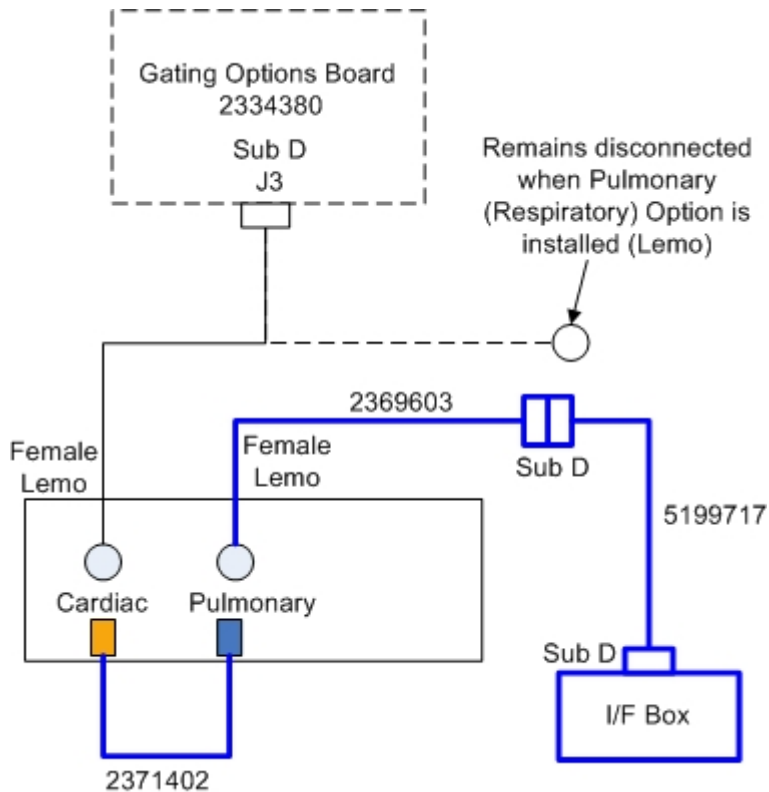

FIGURE 3-1: SINGLE GATING RPM CABLE CONNECTIONS
1. Attach cables 2371402 (Orange end to Cardiac port-Blue end to Respiratory port), 2369603 and 5199717 according to Figure 3-1 and 3-2.